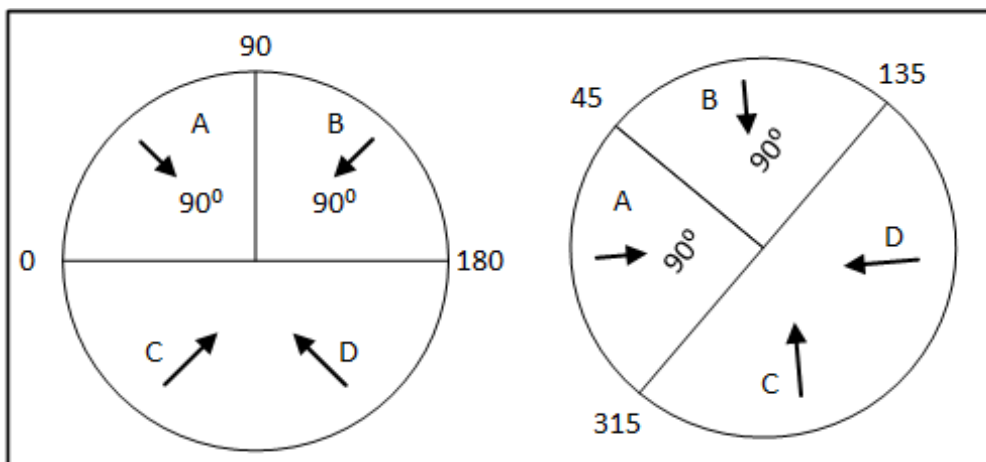

Figure 7: Wind Direction Sensor Definition (7.18)
The number entered here defines the area on both sides of the sensor! Figure 7 illustrates a chicken house with four wind sensors. Sensor 1's Wind Direction parameter is defined as 45° or 90° total. Winds that come within this area (A) are used for Natural Programming. The controller disregards winds outside of this area (B & C).